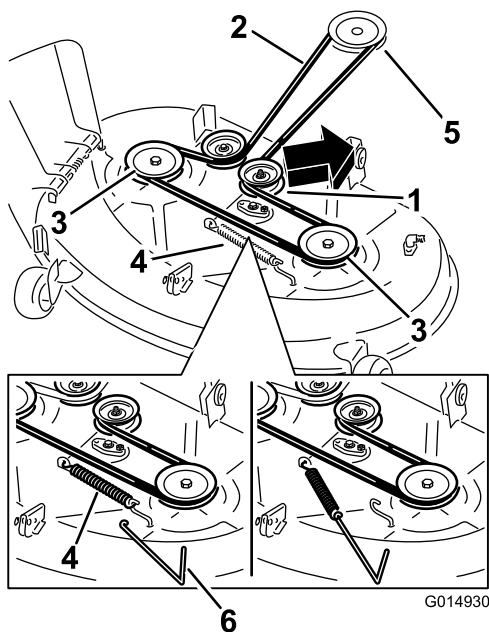

**Figure 60**
5. Lift the mower deck and hanger brackets clear of the rear lift rod and lower the mower carefully to the ground (Figure 60).
- Lift the rear of the mower deck and guide the hanger brackets over the rear lift rod (Figure 60).